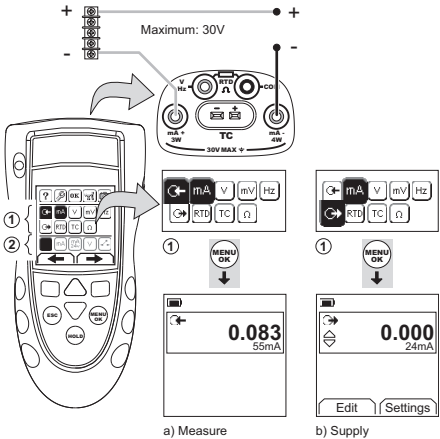
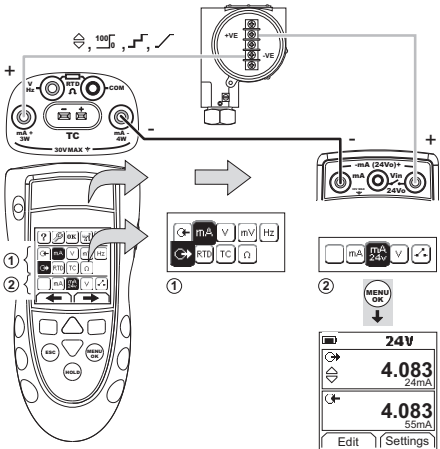
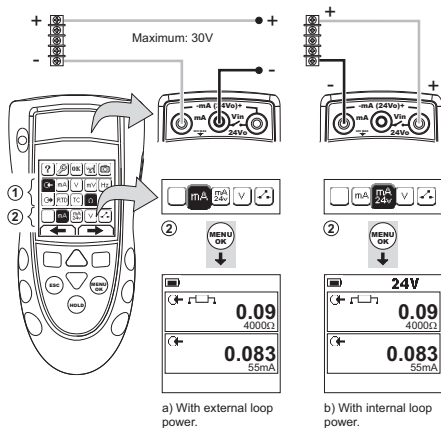

Figure 1: Example Configuration - To Measure/Supply mA with External Loop Power (Area ①)
Figure 2: Example Configuration - To Supply mA with Internal Loop Power (Area ①)
Figure 3: Example Configuration - To Measure mA (Dual Function, Area 2)
1. Connect the instrument (Figure 1, Figure 2 or Figure 3) and, if necessary, adjust the Set Up (Table 1).